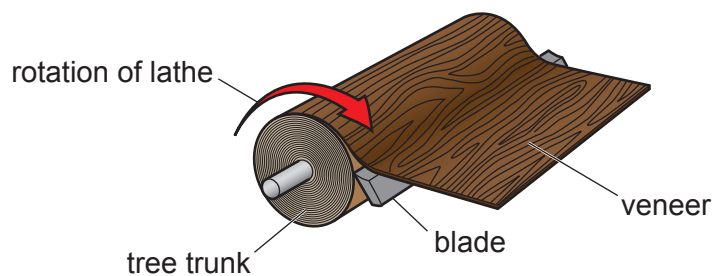

Fig. 2.2
- (b) To produce thin sheets of timber for plywood manufacture, a tree trunk (or log) is mounted on a large lathe. As the tree trunk rotates a long blade cuts a continuous thin sheet (veneer) as shown in **Fig. 2.2**.